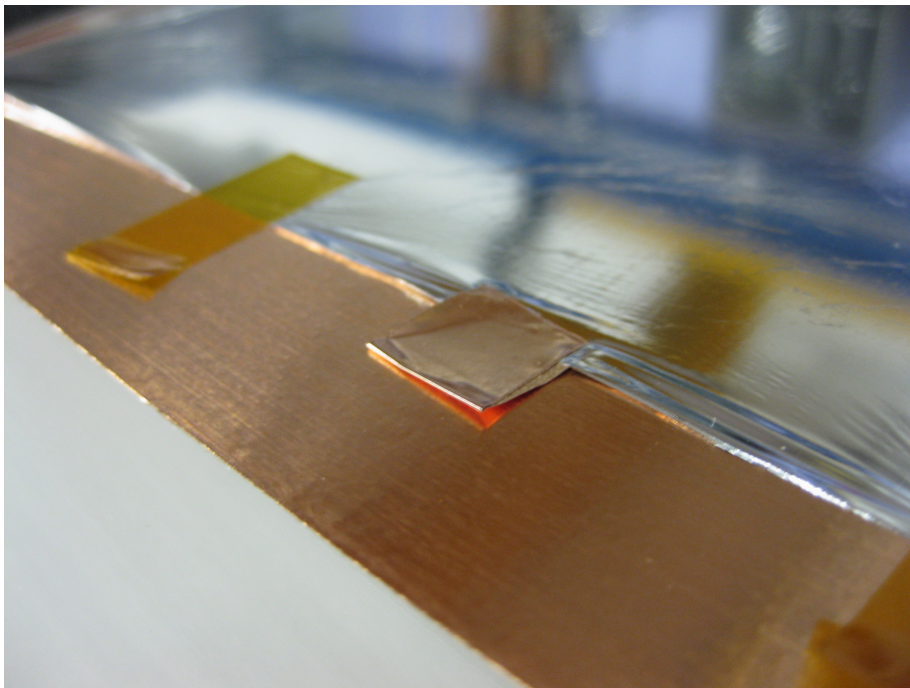

Figure 23: The copper tab can now be pressed firmly, securing it to the thin-film.
4. Press the copper connectivity tab down firmly onto the film (Figure 23).